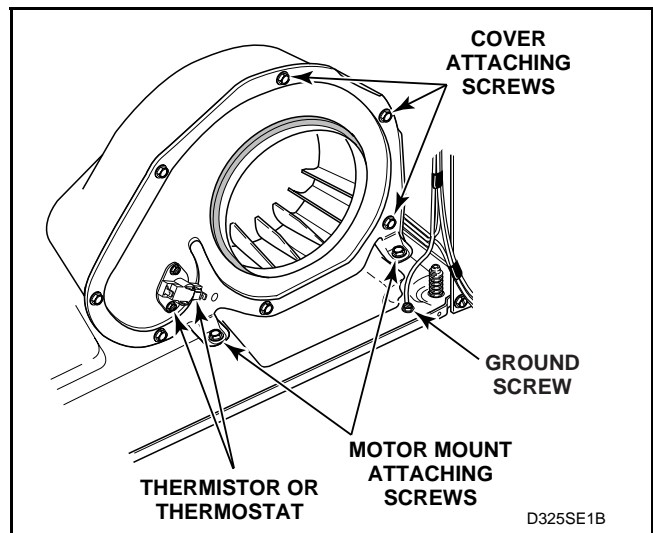

Figure 20
- Remove two screws holding motor mounting bracket to dryer base. See *Figure 20*.
- Disconnect wires from thermostat (and heater, if present) then disconnect ground wire screw. See *Figure 20*
- (1.) Remove screws holding cover to housing. See *Figure 20*.